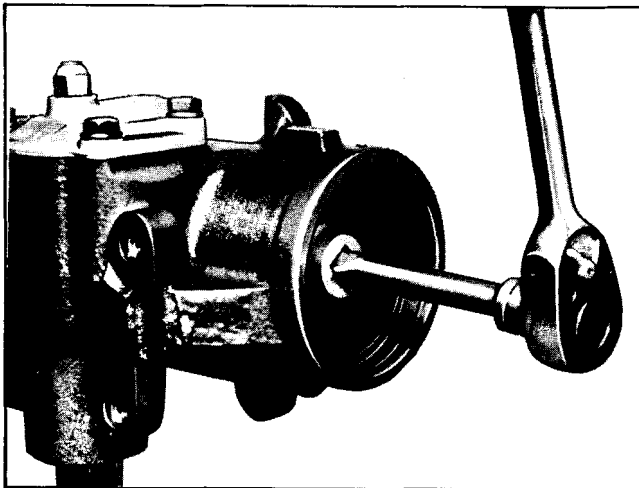

Fig. 9-83 Removing Rack-Piston End Plug
3. Remove the rack-piston end plug as shown in Fig. 9-83.